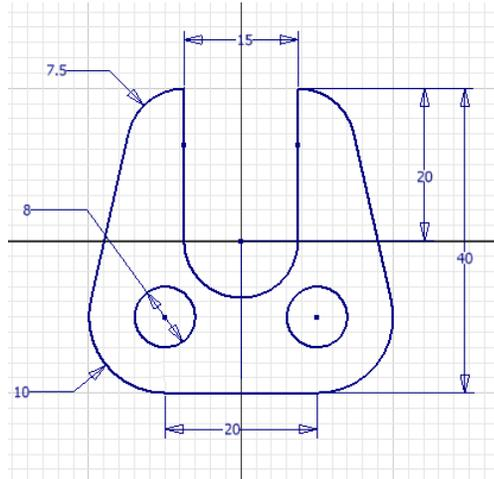

Figure 3-62 The final dimensioned sketch for Tutorial 3
- Draw inner circles and add constraints and dimensions to them, refer to Figure 3-62.
Notice that the size of the right circle is automatically modified to match the dimension of the left circle. This is because the **Equal** constraint is applied between the two circles. The final sketch for Tutorial 3 after drawing and dimensioning circles is shown in Figure 3-62.